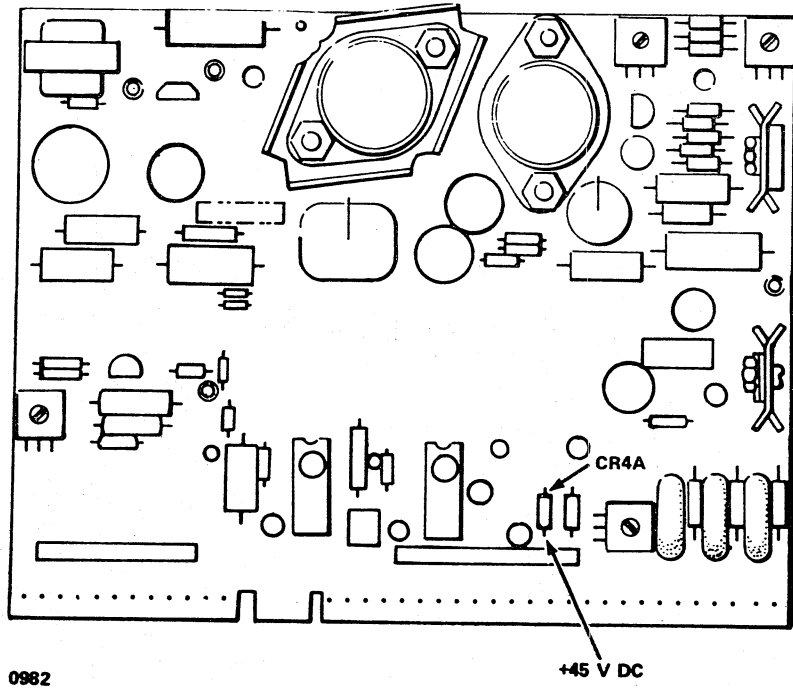

Figure 6-33. Test Point for +45 V dc
15. Connect the red (+) lead to diode CR4A (figure 6-33).